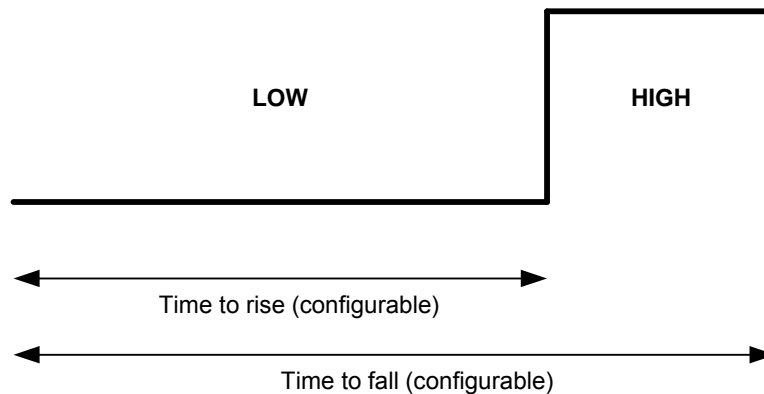

Figure 7: Timer Mode Signal
These times and the timer signal are illustrated below in Figure 7.
- **Single-shot mode:** The timer produces a single pulse cycle (as depicted in Figure 7) and then stops. The timer can be started in this mode using `vAHI_TimerStartSingleShot()`.